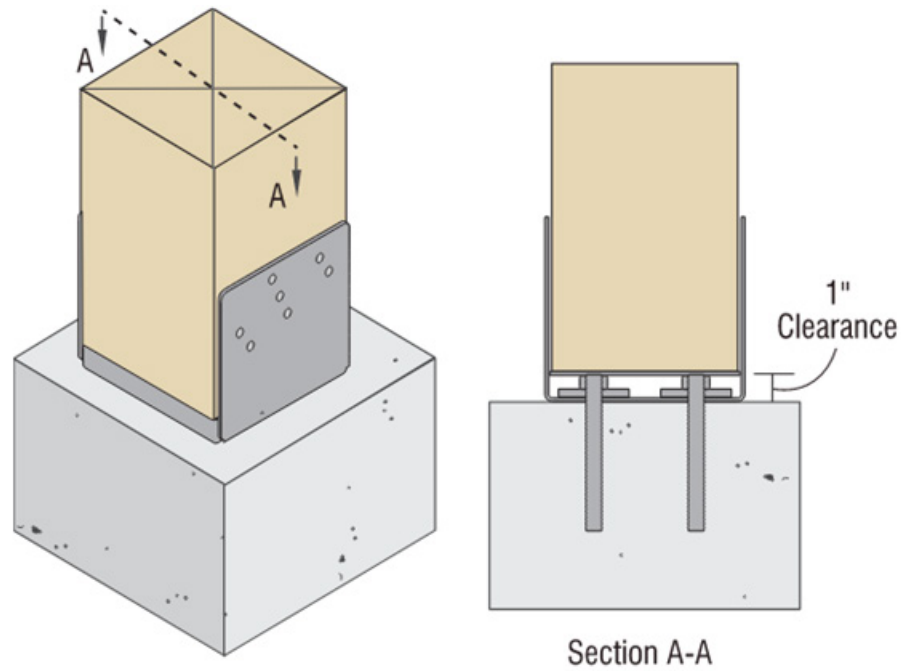

Figure 4. PBA Post Base Anchor
- The square washer shall be installed below the heavy hex nut. The heavy hex nut shall be installed flush with the bottom of the standoff plate. See **Figure 4** for three-dimensional view of post base installed in concrete.
- 1.4.1 Allowable compressive design values for PBA44-4P/6P and PBA66-4P/6P are provided in **Table 2** and illustrations of an example of installation is shown in **Figure 4**.